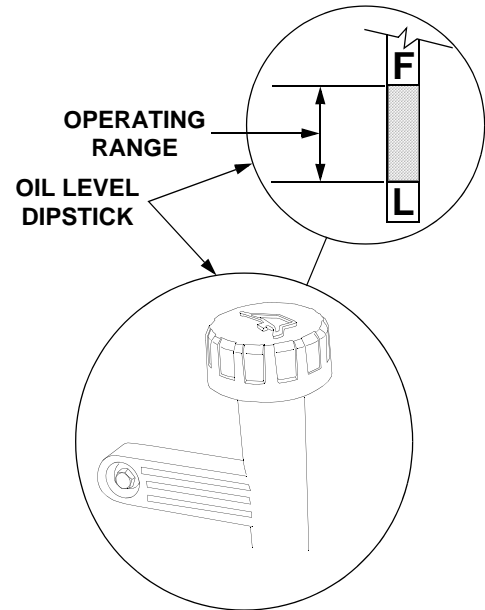

Figure 18
3. Remove the oil fill cap/dipstick from the oil fill tube and SLOWLY pour oil into the oil fill tube. Fill the crankcase until the oil level reaches the "FULL" mark on the dipstick (Refer to Figure 18).
3. Remove the oil fill cap/dipstick from the oil fill tube and SLOWLY pour oil into the fill tube. The oil capacity is approximately 4 pints. Fill the crankcase until the oil level reaches the “FULL” mark on the dipstick (Refer to Figure 18).